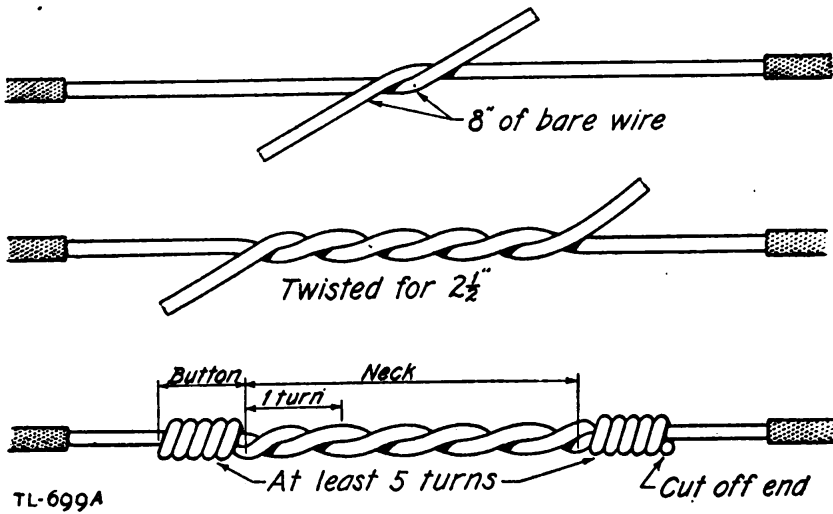

Figure 7
10. Western Union splice.—The Western Union splice is used when splicing two solid wires together. Strip the insulation from the ends of both wires for about 8 inches and clean them so that they are bright and free of corrosion. Make the splice as illustrated in figure 7. The twisted portion, composed of three complete turns is called the "neck." The five close turns at each end are known as the "buttons." The wires in the neck should be in close contact with each other. Cut the ends of the buttons off as closely as possible, being careful not to leave a sharp point that will puncture the tape wrapping.